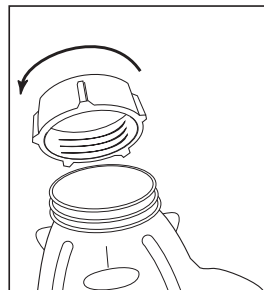

FIGURE 4
5. Place threaded jar nut or threaded jar skirt over blade and jar (*Note: If there are slots on top of collar, line them up with notches on jar.*) Place the threaded jar nut or threaded jar skirt on jar and turn it clockwise to tighten. (*Figure 4*)